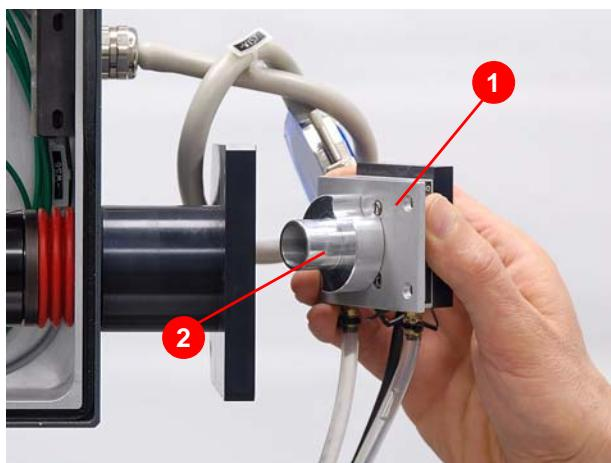

Figure 5.19 Complete the measurement head.
2. Attach the fitting (1) (Figure 5.19) on the power measurement head.
3. Insert the cross wire adapter (2) to the fitting.